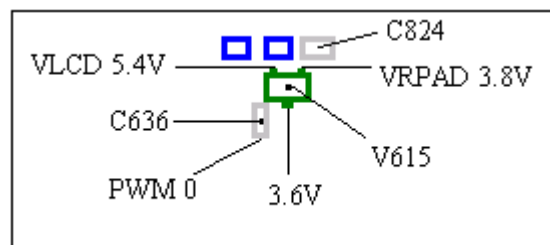
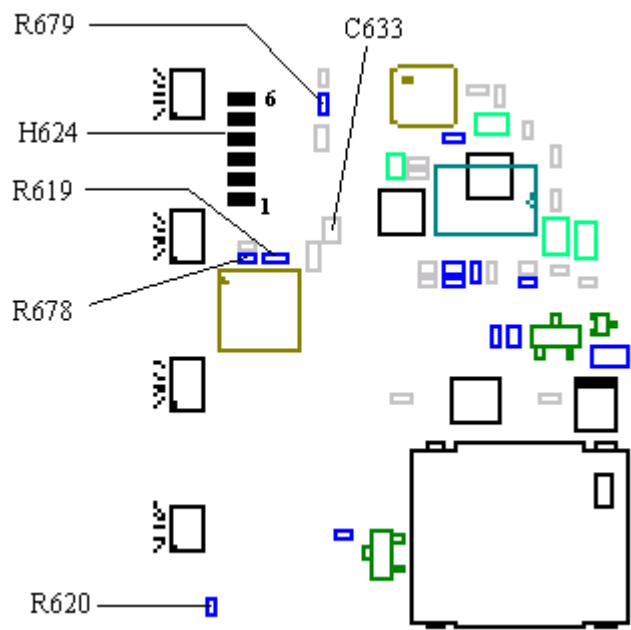

Fig. 5.8
Fig. 5.10
Measure the voltages at the V615 (class A) diode. Compare the measurement to the values in fig. 5.8.
- If any of the values differ, measure the resistance of C633 (class A, >100 kohms, fig. 5.10) and C824 (class A, >25 kohms, fig. 5.8).
- * If the voltages (except VRPAD) at the diode are still incorrect after replacing it, check the soldering at D600 pad 96. If it's correct, replace C636 (class A, fig. 5.8).
Measure the voltages at the display pads H624 (fig. 5.10):